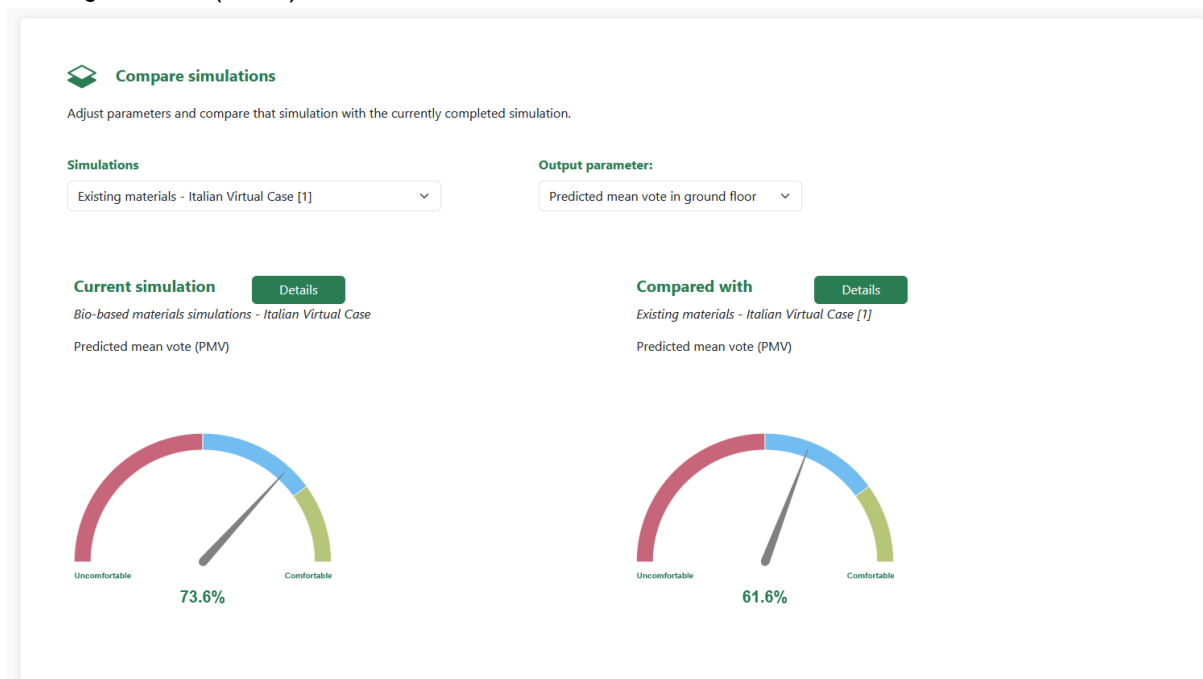

Figure 17: PMV comfort indicators comparison.
17. In figure 17, you can see the comparison of the comfort indicator PMV for the ground floor. In this example you can see that the percentage of hours where the comfort indicator is satisfactory, is larger (73,6%) for the BIO4EEB renovation compared to the indicator in the existing situation (61,6%).